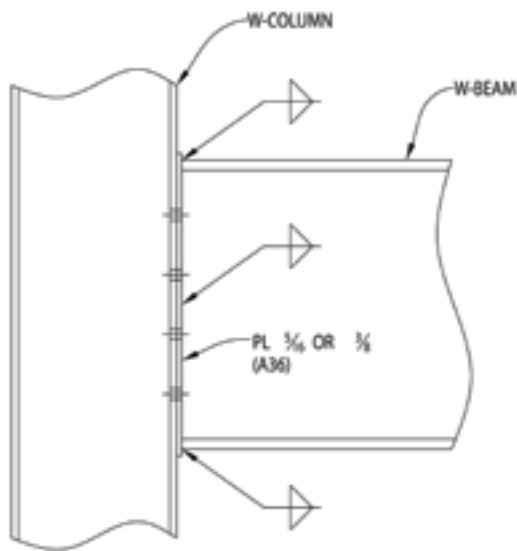

Figure 1. End Plate Connection for Torsion
15. Don't use fully restrained moment connections to resist torsion. Typically, a $\frac{5}{16}$ -in. or $\frac{3}{8}$ -in. end plate shop-welded to both flanges or bolted flange angles will provide adequate strength. Note that connection flexibility can be provided by keeping bolts at the end plate between the flanges, or using snug-tight bolts in the slotted holes in horizontal legs of flange angles. (**Figures 1 and 2** illustrate these connection concepts.)